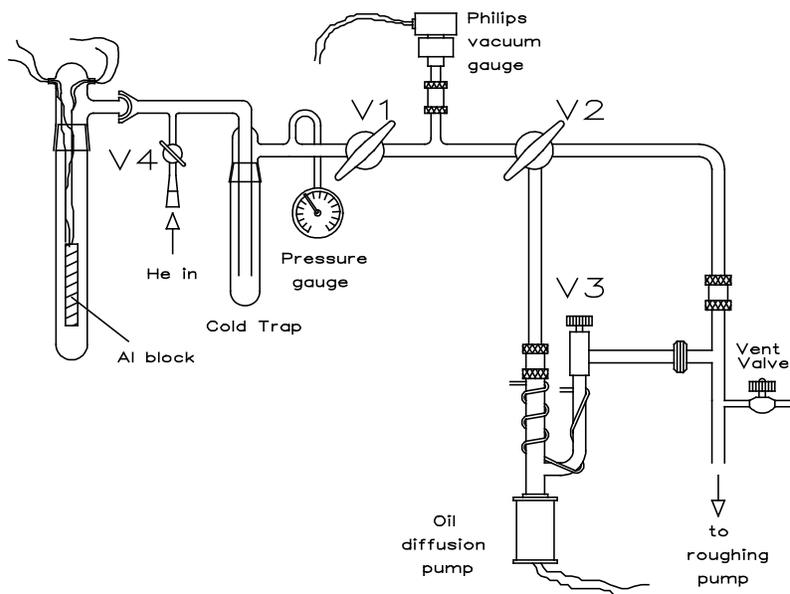

Figure 3. Diagram of vacuum line used in Low Temperature Heat Capacity Experiment
Before starting this experiment, make sure that you understand the principle of operation of an oil diffusion pump and how the vacuum line shown in Fig. 3 is to be handled.
- 5) that the cold trap (see Fig. 3) is filled with liquid nitrogen at all times; it may need to be topped up regularly.
A diagram of the vacuum system used here is shown in Fig. 3. When you come in, the system should be in a vacuum state, *ie*, pressure gauge should read ≈ -90 kPa, and the vacuum gauge should read $< 10^{-4}$ mm Hg.